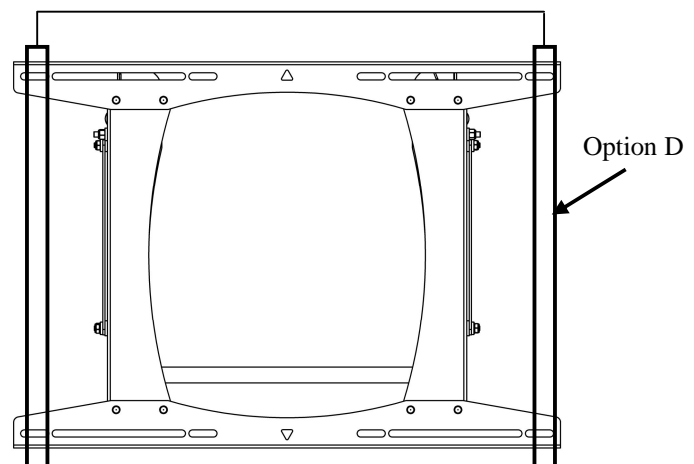

Figure 7. Mounting Holes – 24" Apart On Center (Option D)
- **Option D.** Install four 5/16" x 2-1/2" lag bolts (20) and four 5/16" washers (30) (two top and two bottom) into the mounting holes, centering the PLP on dual wood studs 24" apart on center as shown in Figure 7.